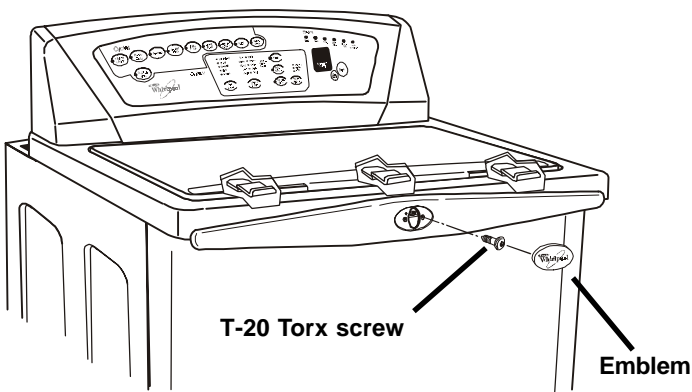

Fig. 3-8
3. Gently pry the emblem from the front trim. (*Fig. 3-8*)